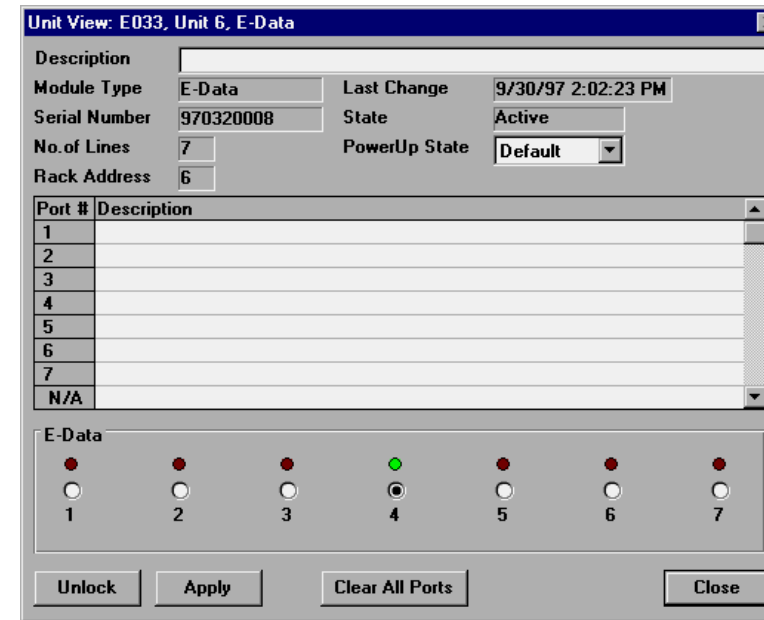

Figure 3: The E-DATA dialog box.
2. Click on the picture of the E-DATA module in the E-COMMANDER stack. The dialog box shown in Figure 3 will appear.